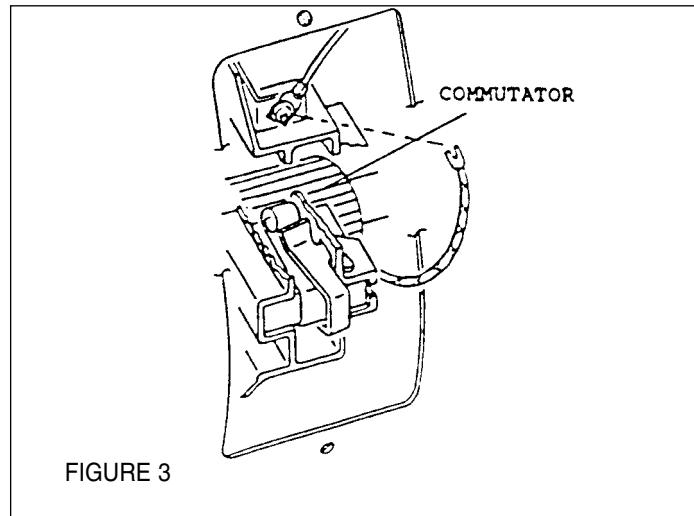

FIGURE 3
3. Loosen the terminal screw. Pull the brush lead away, but leave the motor lead in place. Remove the brush and spring. See Figure 3.